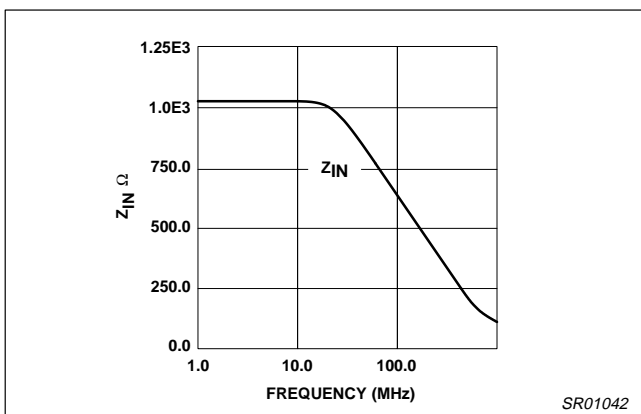

Figure 6. NE568A Input Impedance With CP = 0.5pF 20-Pin SO Package
- Input impedance depends on package and layout capacitances. See Figures 6 and 5.